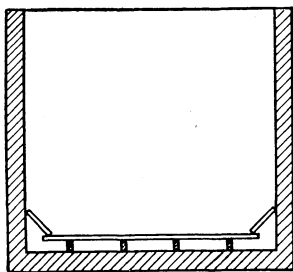
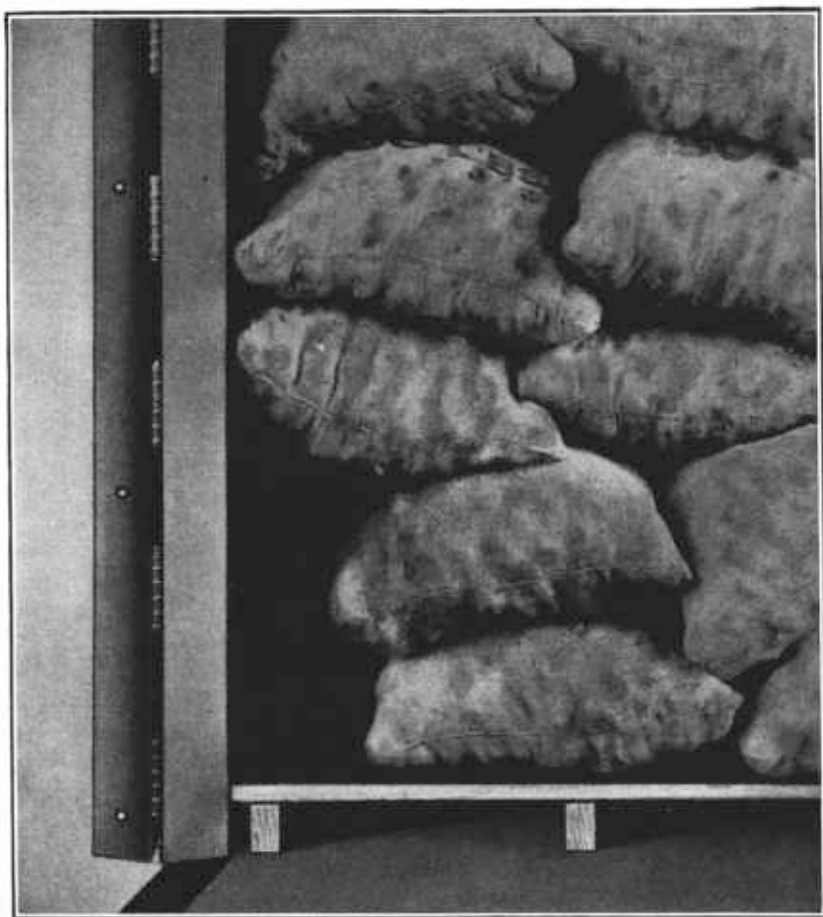

FIG. 19.—Boards to keep the bottom potatoes away from the sides of the car. This greatly reduces damage by freezing.
FIG. 20.—Sacked potatoes loaded away from the sides of the car to prevent freezing.
14. The potatoes at the floor should be loaded not less than 6 inches away from the sides and ends of the car. In bulk potato shipments, this may be accomplished by boards not less than 10 inches wide or by racks placed at an angle along the walls with one edge nailed to the false floor and the other resting (not nailed) on the side of the car. (Fig. 19.) In sacked potato shipments the same method may be used, or the bottom layer of sacks may be loaded away from the sides and ends of the car and held in place by the layers above. This method is illustrated in figure 20.
15. Load potatoes in sacks somewhat as indicated by the cover illustration and figure 20. At no place should the sacks in any portion of the load come closer to the ceiling than 8 inches when loaded.
9. The potatoes at the floor should be loaded not less than 6 inches away from the sides and ends of the car. In bulk potato shipments this may be accomplished by boards not less than 10 inches wide, or by racks placed at an angle along the walls with one edge nailed to the false floor and the other resting (not nailed) on the side of the car. (Fig. 19.) In sacked potato shipments the same method may be used, or the bottom layer of sacks may be loaded away from the sides and ends of the car and held in place by the layers above. This method is illustrated in figure 20. *Caution.*—Where boards are
10. Load potatoes in sacks somewhat as indicated by the cover illustration and figure 20. At no place should the sacks in any portion of the load come closer to the ceiling than 8 inches when loaded.